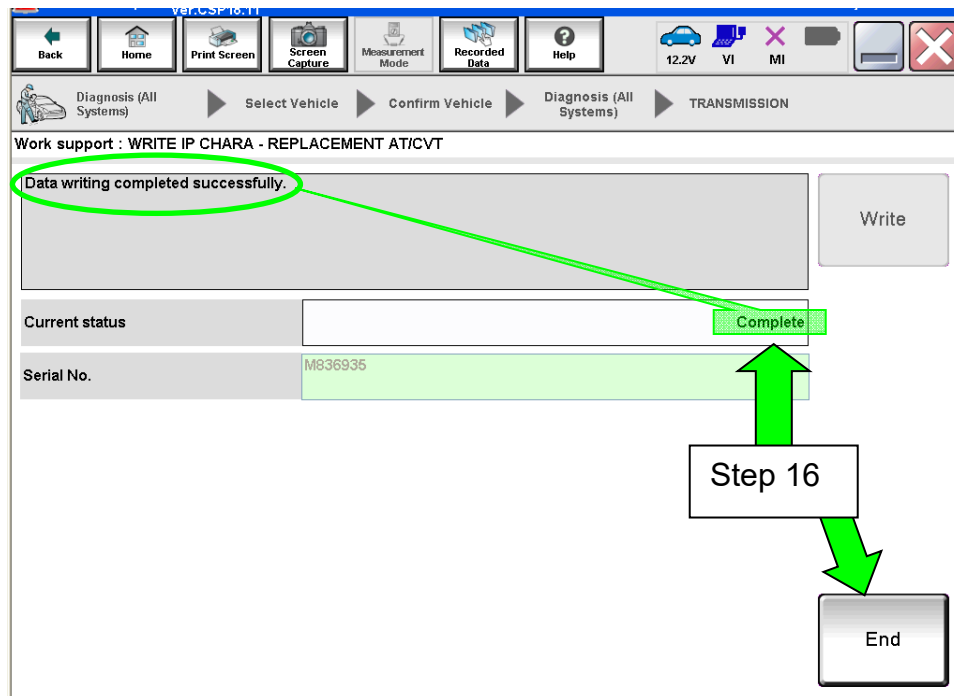

Figure A8
15. When the calibration data has been written to the TCM, the message “**Data writing completed successfully**” will be displayed and **Current status** will indicate **Complete** (Figure A8).